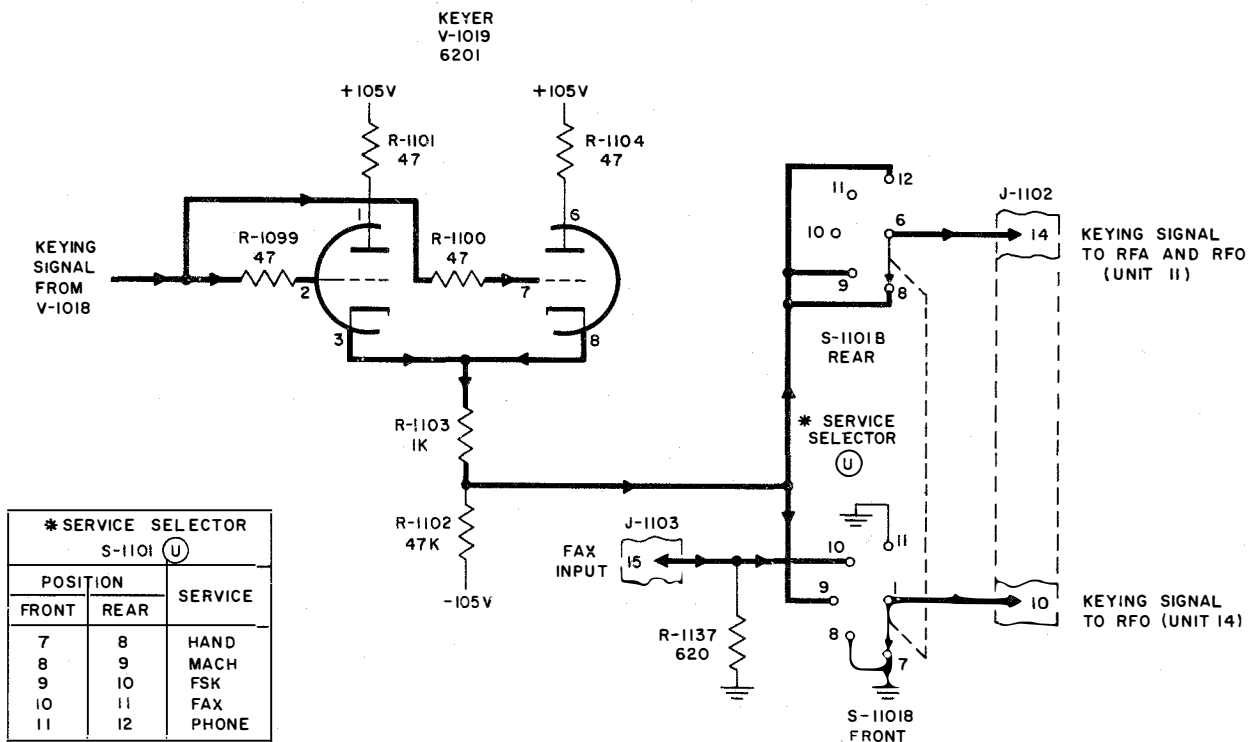

Figure 2-85. Keyer V-1019, Simplified Schematic
(7) KEYER V-1019.—The keyer, V-1019, is a cathode follower stage to provide a low impedance keying output supply (figure 2-85). The keying signals, as clipped by the limiters, are fed to the grids of the keyer, V-1019, which is a twin triode operating in parallel, through parasitic suppressors R-1099 and R-1100. The cathode load is made up of R-1103 and R-1102, which constitute a voltage divider with the output taken from the junction of the two. When the zero voltage mark keying signal is applied to the grid of the keyer, the